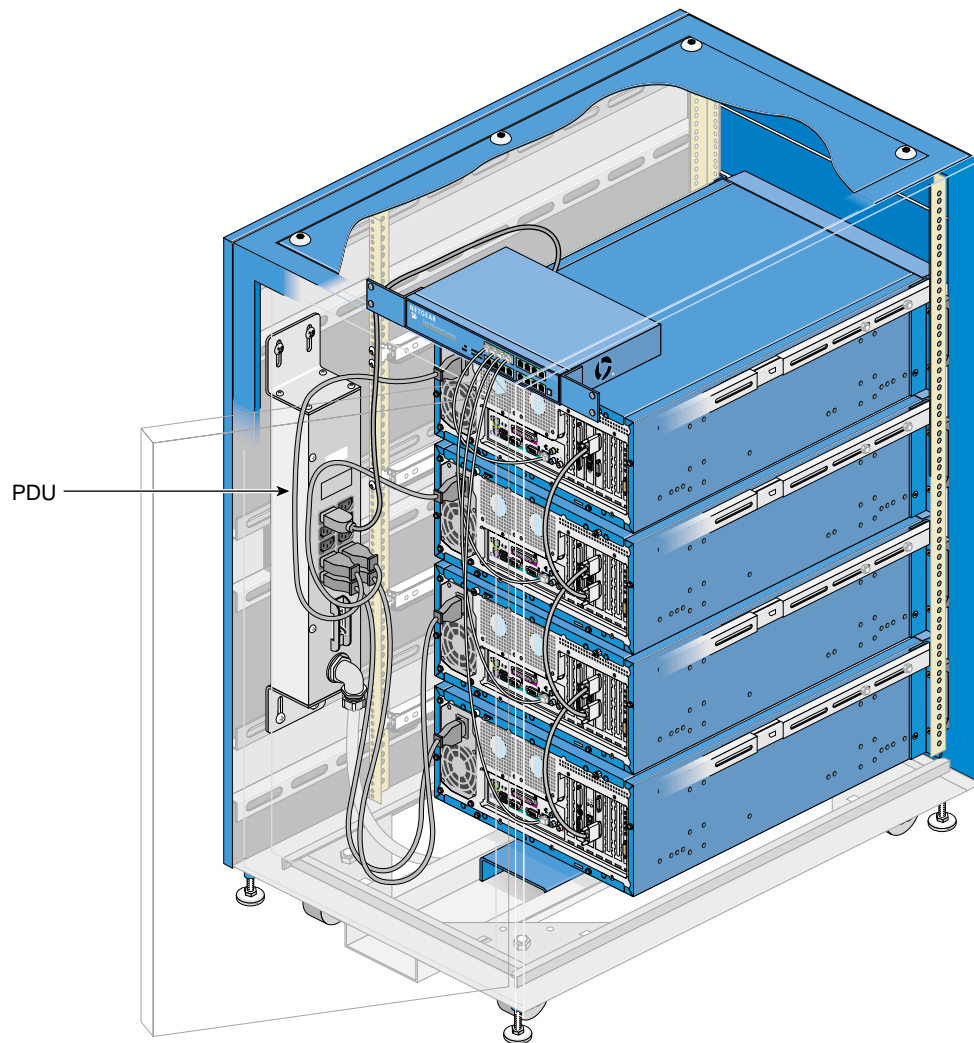

Figure 3-1 Rack Power Distribution Unit
- SGI ImageSync daisy-chain cabling: from the master node **OUT** port to channel0 **IN** port; from channel0 **OUT** port to channel1 **IN** port; from channel1 **OUT** port to channel2 **IN** port, and so on (see Figure 3-1)
4. Turn on rack power using the breaker switch on the power distribution unit (PDU); see Figure 3-1.